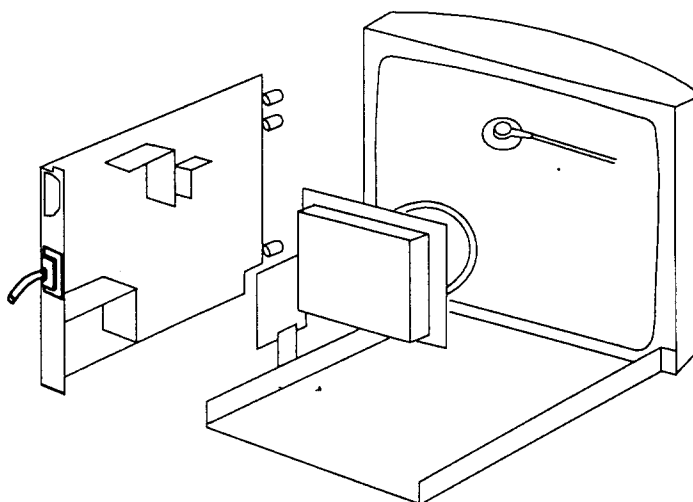

Fig. 4.3
- Place Main panel in service position as shown in Fig. 4.3.